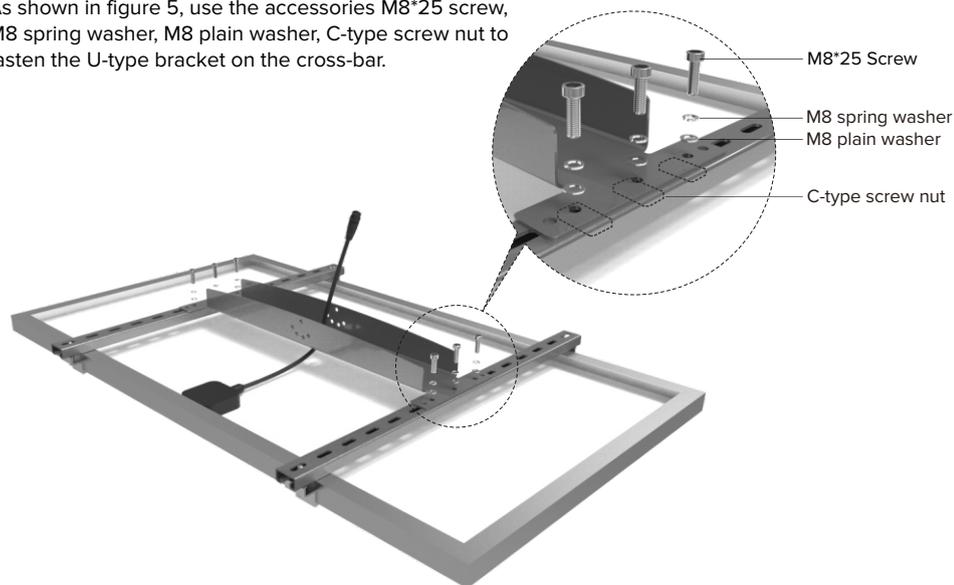

Figure 5
- 3 As shown in figure 5, use the accessories M8*25 screw, M8 spring washer, M8 plain washer, C-type screw nut to fasten the U-type bracket on the cross-bar.